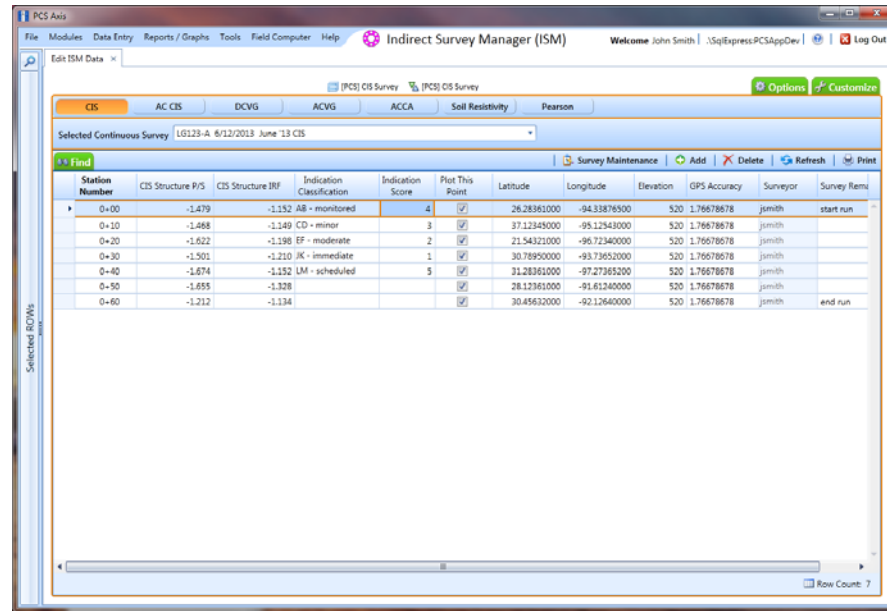

Figure 6-58. Edit ISM Data
- 3 Click **Data Entry > Edit ISM Data** to open the ISM data entry grid. Then click the **CIS** button  to work with a close interval survey (Figure 6-58, page 227).